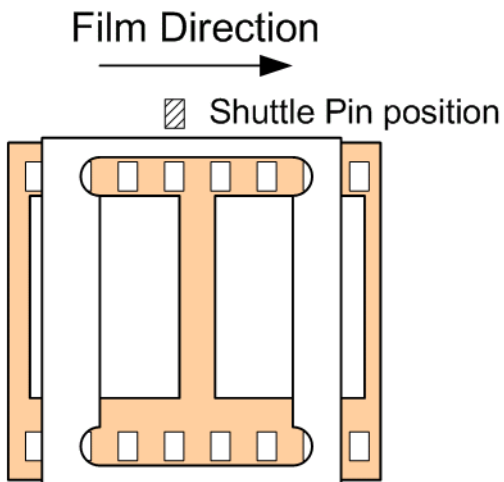

Fig 40 Shuttle pin position
5. Centre the film loop between the sprockets and align the film frame bar in the centre of the aperture plate just to the right of the shuttle pins (as in Fig 40/41 below) Release the gate lace latch (Fig 36) gently lowering the shuttle pins into the film's perforations. Lightly rock the film to verify that the pins are fully located in the film perforation. (See Gate Lacing below for more details)